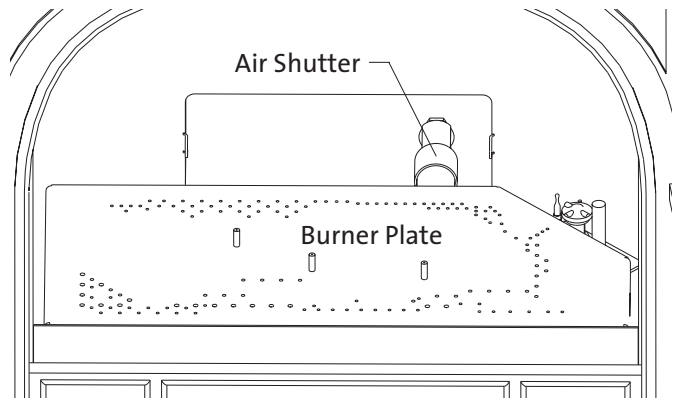
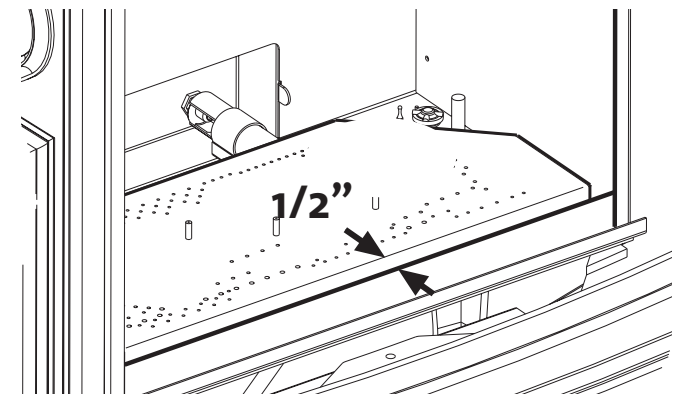

Figure 13. Remove the Air Shutter and Burner as a unit.
Figure 15. Correct Burner Position - maintain 1/2 inch clearance between burner and firebox front.
7. Lift out the Burner Plate: NOTE: There are no screws securing the Burner to the floor of the firebox. Pull the Air Shutter forward and lift the burner together with shutter up and out of the stove as a unit. See fig. 13.
10. Replace the Burner Plate. Engage the burner tube with the Air Shutter assembly as in fig. 13. Be sure the burner is securely engaged with the two support brackets at the front of the firebox and push the plate back toward the rear of the firebox. When correctly positioned, there will be 1/2" (13 mm) clearance between the burner plate and the front of the firebox. See fig. 15.